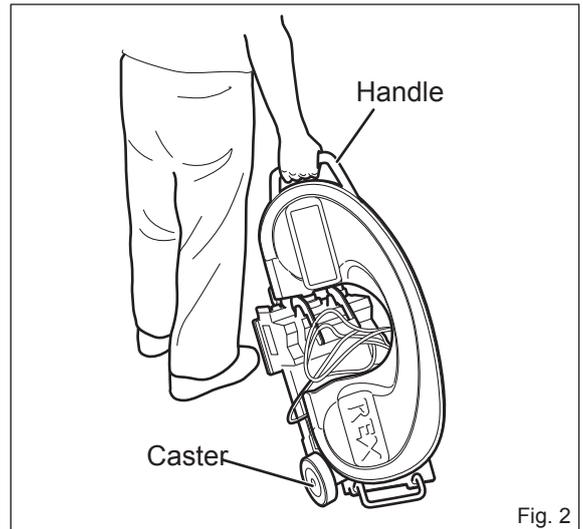

Fig. 2
1. Transport and Installation (Figs. 2 & 3)
(1) The frame is locked before the product is packed. Hold up the handle. The casters will contact the ground, allowing you to roll the unit along the ground. (Fig. 2)